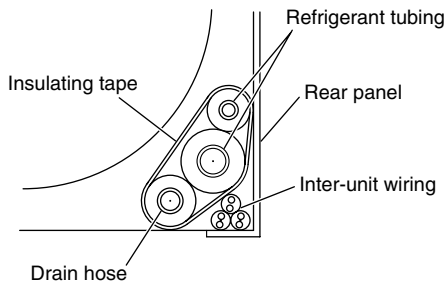

Fig. 3-31
- (2) After performing a leak test, wrap the refrigerant tubing and drain hose together with insulating tape (Fig. 3-31).